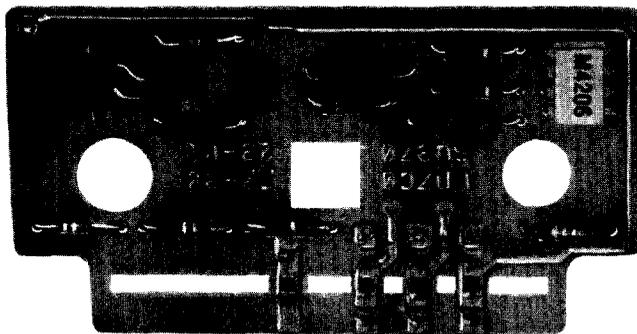

Fig. 1—E6 Solid-State Disabler
1.01 This section describes the solid-state disabler (Fig. 1) designed for use with the E6 repeater. This unit will replace the J99253L-2 disabler (MD) in all circuit applications.